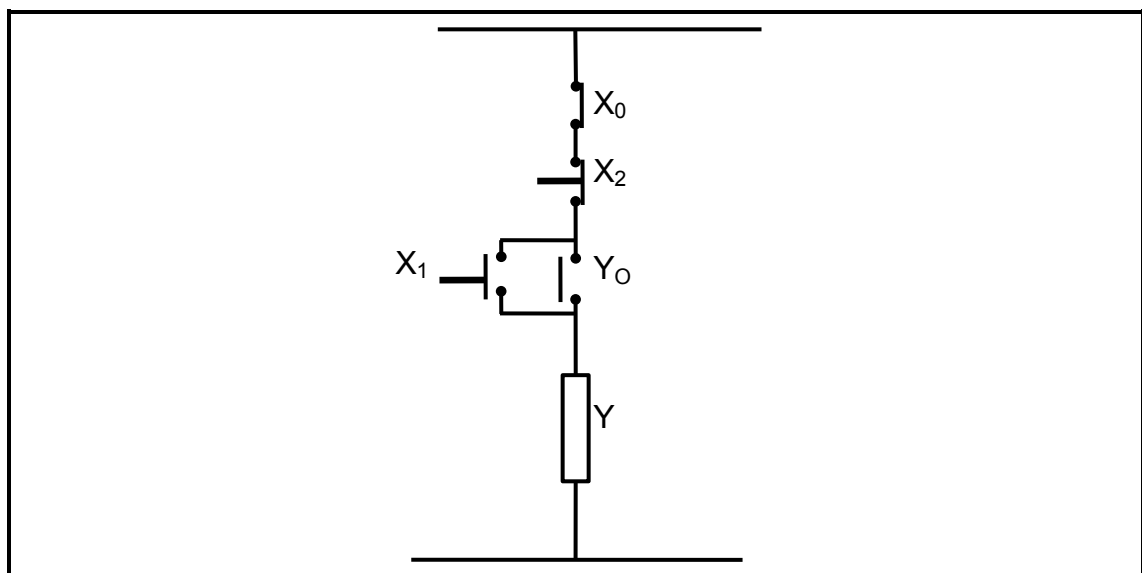

FIGURE 6.2: CONTROL CIRCUIT
6.3 Study the circuit in FIGURE 6.2 below and answer the questions that follow.